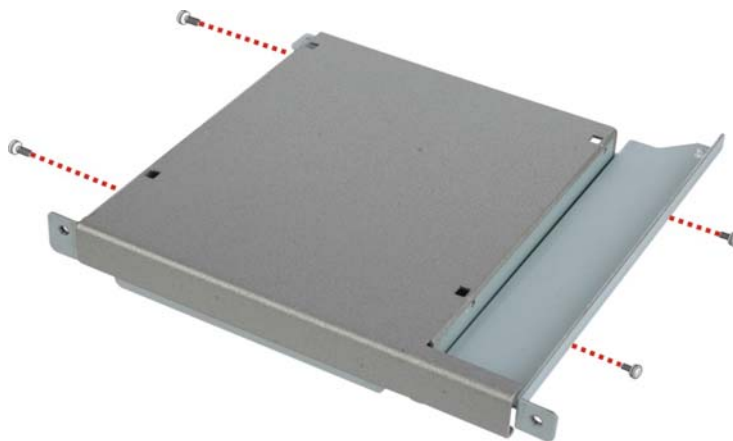

Figure 3-19: Optical Drive Blank Plate Assembly
Step 3: Remove the four screws from the optical drive bracket assembly (**Figure 3-19**).